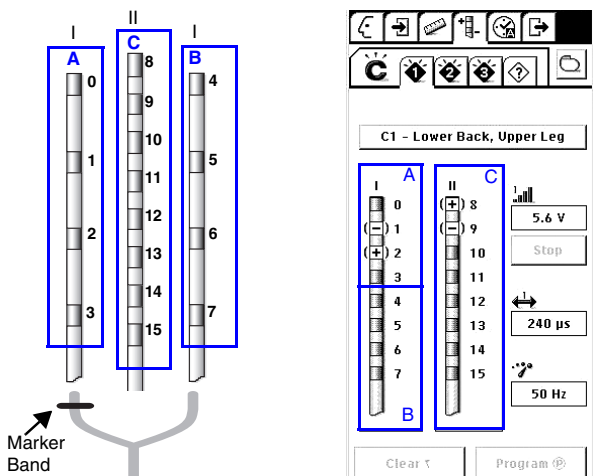

Figure 2.
4. For Lead 0-7 on the programmer screen, which are also the implanted quadripolar leads (Figure 2 A, B), program electrodes 0-3 for the lead electrodes connected to the marker band leg of the extension (A) and program electrodes 4-7 for the lead electrodes connected to the non-marker band leg of the extension (B).
Refer to Figure 2 for matching the electrodes of the implanted leads with the electrodes of the lead on the programmer screen.
5. For Lead 8-15 on the programmer screen, which is also the implanted octapolar lead (Figure 2 C), program electrodes 8-15 (C).
Refer to Figure 2 for matching the electrodes of the implanted lead with the electrodes of the lead on the programmer screen.